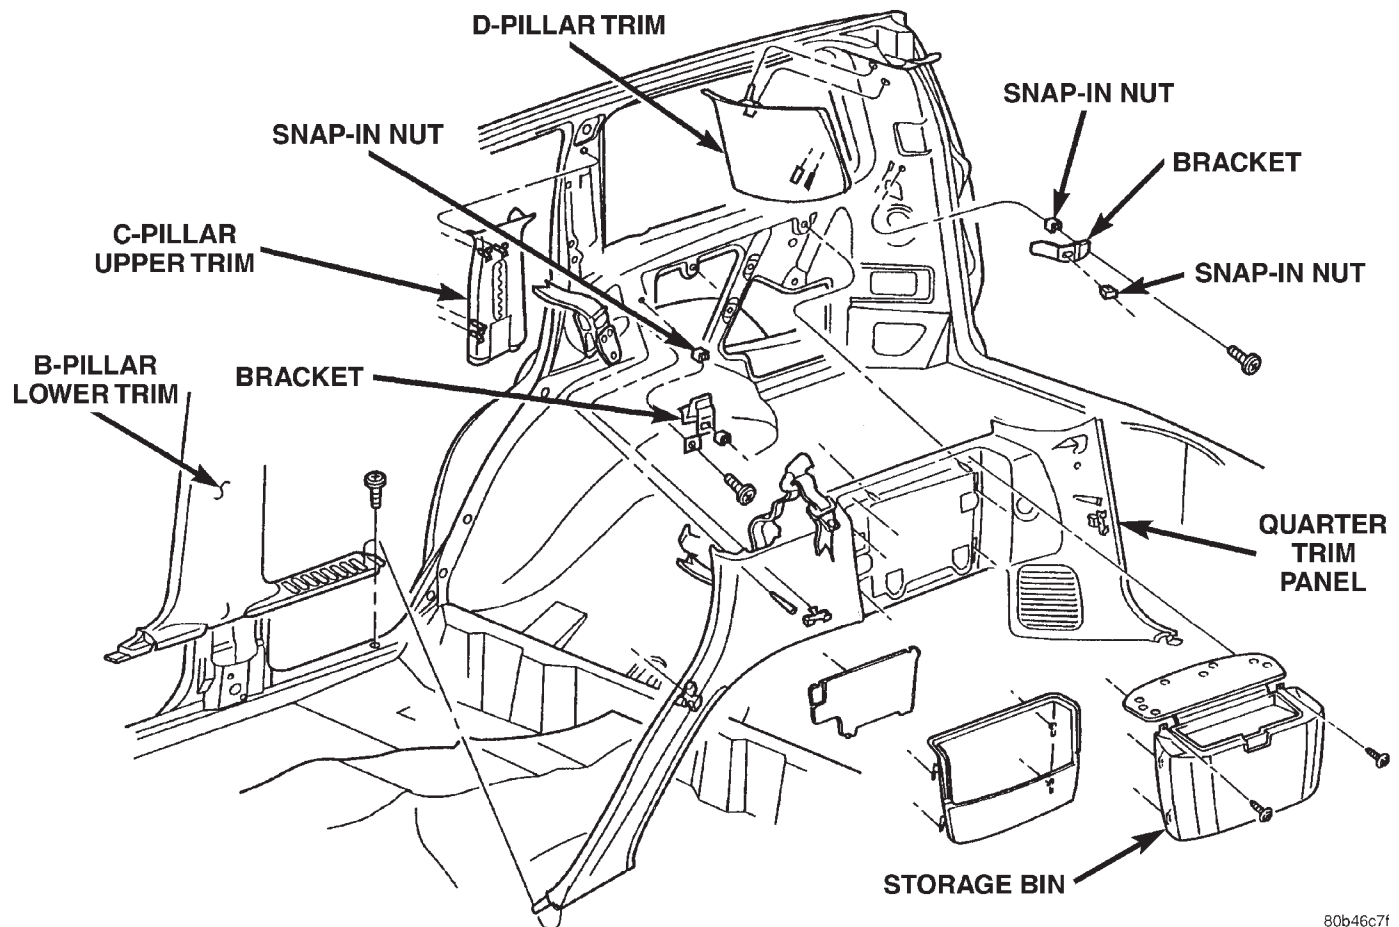

Fig. 60 Right Side Trim Panel
- (1) Remove rear shoulder belt turning loop.
- (2) Remove rear shoulder belt height adjustment knob.
- (3) Remove screws attaching quarter panel trim.
- (4) Pull quarter panel trim outward as necessary.
- (5) Grasp C-pillar upper trim and pull outward to disengage from C-pillar (Fig. 60).
- (1) Move rear seat to cargo position.
- (2) If equipped, remove sunshade cover.
- (3) Remove screw attaching quarter panel trim to lower B pillar trim (Fig. 60).
- (4) Open liftgate.
- (5) Remove upper and lower liftgate opening trim panels.
- (6) Remove D-pillar upper trim.
- (7) Remove storage bin (right side only).
- (8) Remove C-pillar upper trim panel.
- (9) Remove mounting screws.
- (10) Pull quarter trim panel forward and disengage connectors for CD player and power outlet, if equipped.
- (11) Pull quarter trim panel extension in the rear door opening upward.
- (12) Remove rear quarter trim panel.